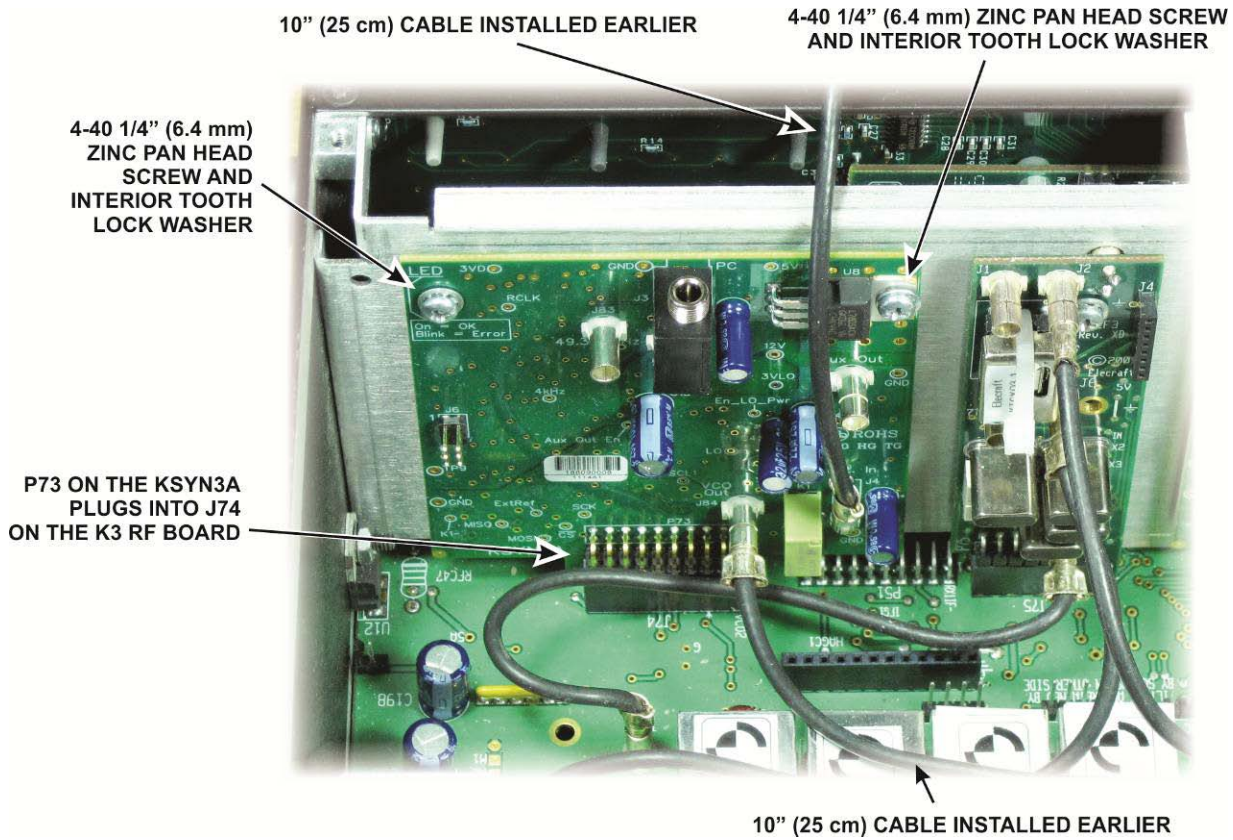

Figure 28. Installing the Auxiliary KSYN3A Board.
□ Install the Auxiliary KSYN3A board on the back of the front panel shield between the KREF3 board and the side panel as shown in Figure 28. The two cables attached to the KSYN3A board will be attached later.